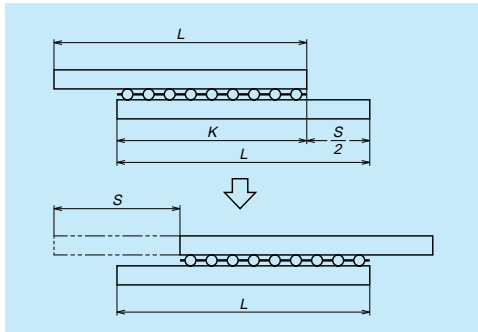

Fig. III-2.9 Relationship of rail and retainer
The retainer does not detach from the rail when condition in Formula (5) is satisfied (Refer to Fig. III-2.9).